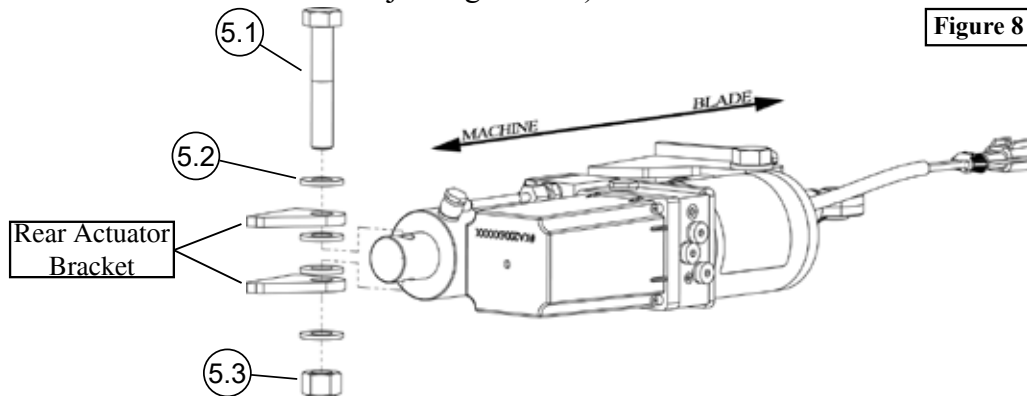

Figure 8
1. Place bolt (6.1) through flat washer (6.2), top tab of rear actuator bracket, flat washer (6.2), Hydraulic Actuator (5), flat washer (6.2), bottom tab of rear actuator bracket, and flat washer (6.2). Place nylock nut (6.3) onto bolt (6.1) as shown in Figure 8. (This orientation of hardware is just a guideline)